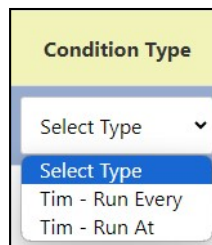

Figure 70: Drop-Down Menu for Timer Condition Type Selection
- 3. Condition Type:** This specifies the nature of the condition and determines how the system will interpret and process it. Selecting the "Condition Type" option opens a dropdown menu with various types to choose from, depending on requirements, as shown in Fig 70.